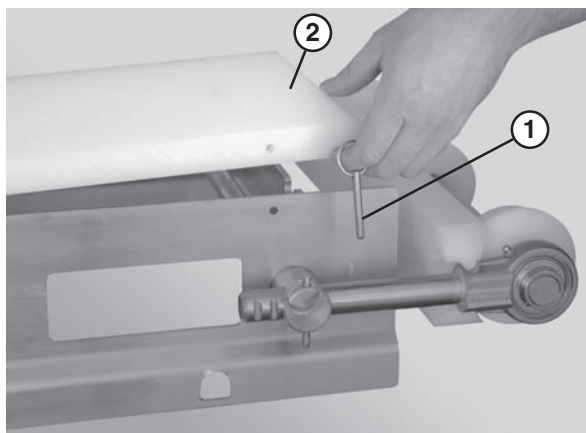

Figure 45
1. Remove the guides, if applicable, by removing the pull pins (**Figure 45, item 1**) that connect the guide (**Figure 45, item 2**) to the frame.